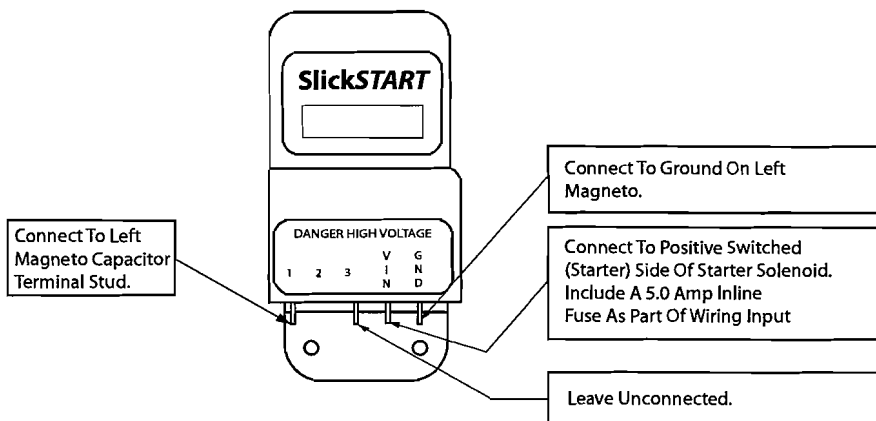

Figure 4
B. To connect SlickSTART™ with an impulse coupled magneto when the engine will be started using only one SlickSTART™ boosted magneto per engine (refer to Figure 4):